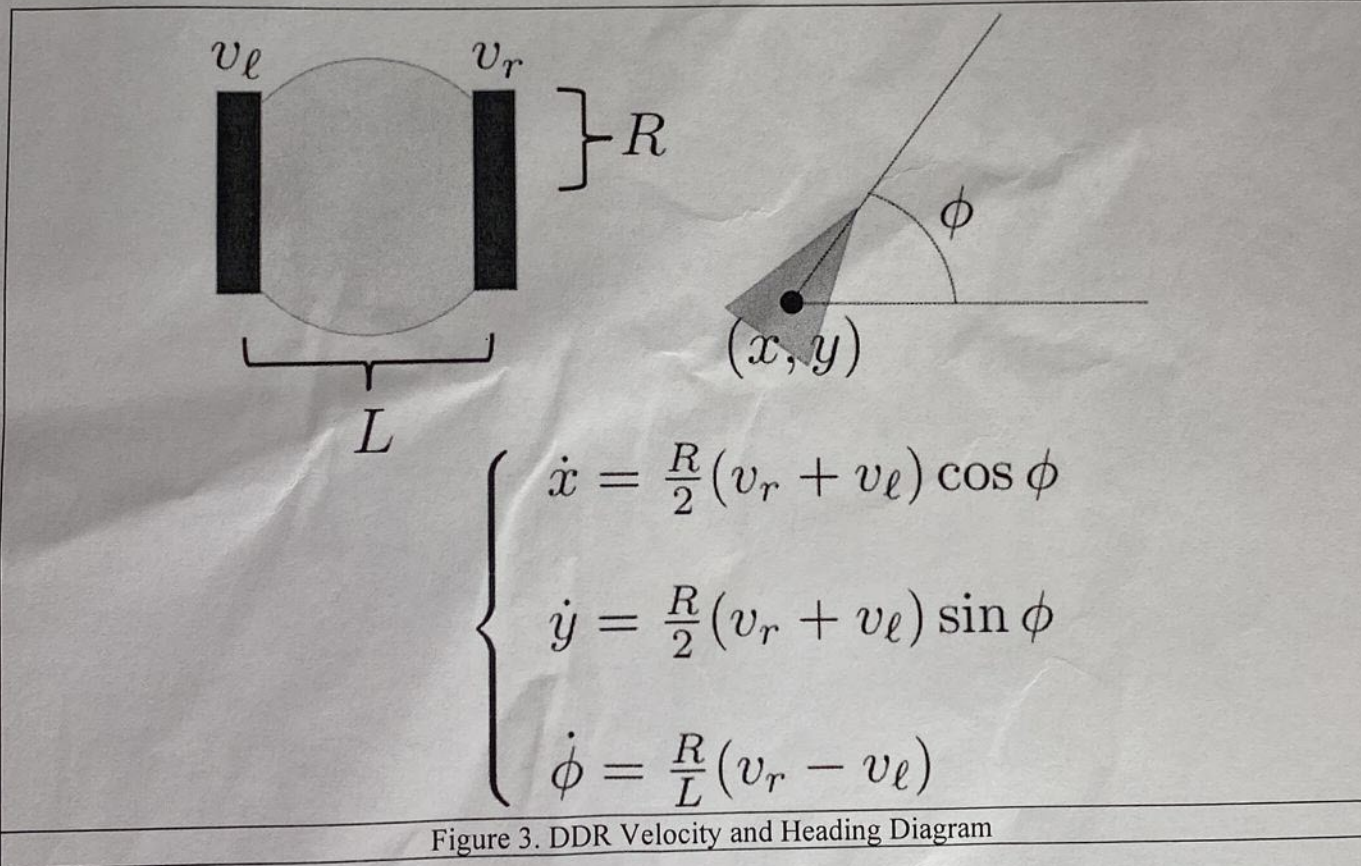

Figure 3. DDR Velocity and Heading Diagram
- A DDR velocity and heading diagram is shown in Figure 3.
- Modeling of DDR motors can be kept at a minimum, suggested to be modeled as a first order system, i.e. $\omega(t) = \frac{K_m}{\tau_s + 1}$ and $\omega(t) = K_{\omega v} V(t)$ where $\omega(t)$ is angular velocity (rad/sec) of the motor, K_m is the gain constant, τ_s is the motor time constant, and $K_{\omega v}$ is the conversion constant for the motor voltage to the angular velocity. Referring the Figure 3, v_r and v_l are the linear velocities of the right and left wheel respectively. The voltage of a motor will have a range from 0 to 12 Volts.
- Parameters regarding DDR such as those in Figure 3 and motor parameters